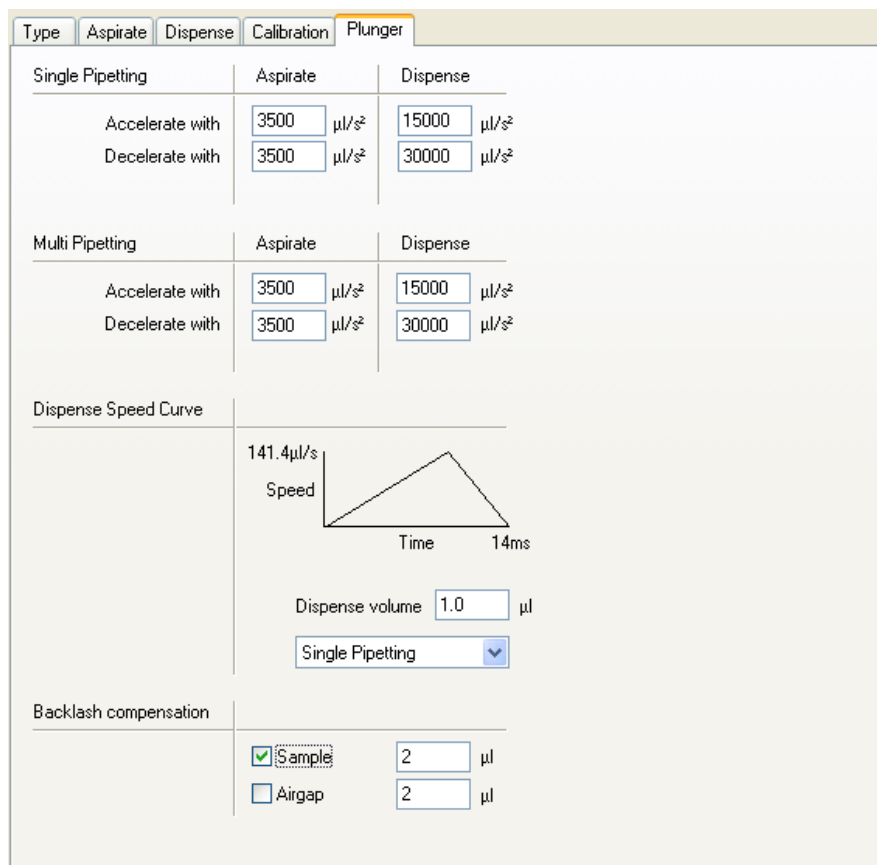

Fig. 10-9 Air LiHa plunger parameters
- ◆ Additional tab **Plunger** for definition of diluter profile (similar to MCA384 Plunger tab but **Vol. dependent speed** not available, see Fig. 10-9, Fig. 10-20)